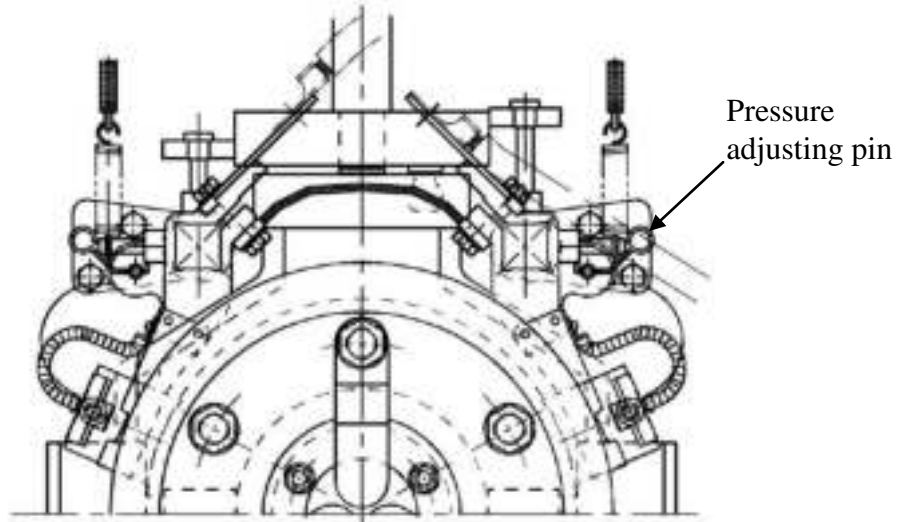

Fig. 25
- The brush pressure may be reduced after use, so it is necessary to re-adjust. For adjustment, please turn adjusting screw, pressure adjusting pin or pressure adjusting plate as shown in Fig.25 to obtain the correct tension ($=0.23 \times \text{brush cross sectional area in cm}^2 \pm 10\%$ kg).